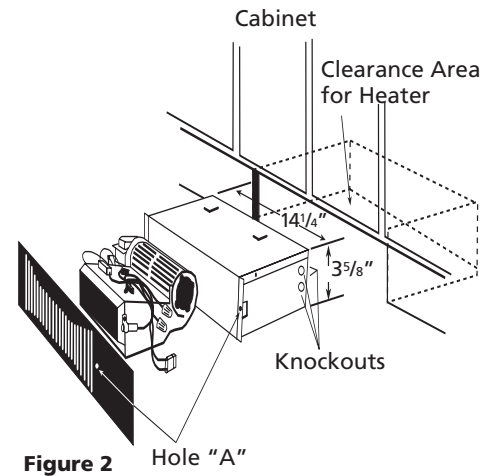

Figure 2 Hole "A"
1. Cut a 141/4" x 35/8" (361.9 x 92.1 mm) opening at desired location as shown in Figure 2. Keep clearance area free of obstructions.
3. Determine which knockout in enclosure will be used for field wiring and remove (See Figure 2). Install strain relief (field supplied).
8. Using the holes in the flanges of the enclosure for a template, secure both the front grille and the heater by drilling two .093" (3/32") (2.3 mm) diameter holes into the cabinet board and installing two No. 6 x 3/4" (152.4 x 19 mm) screws (supplied) through hole "A." See Figure 2.